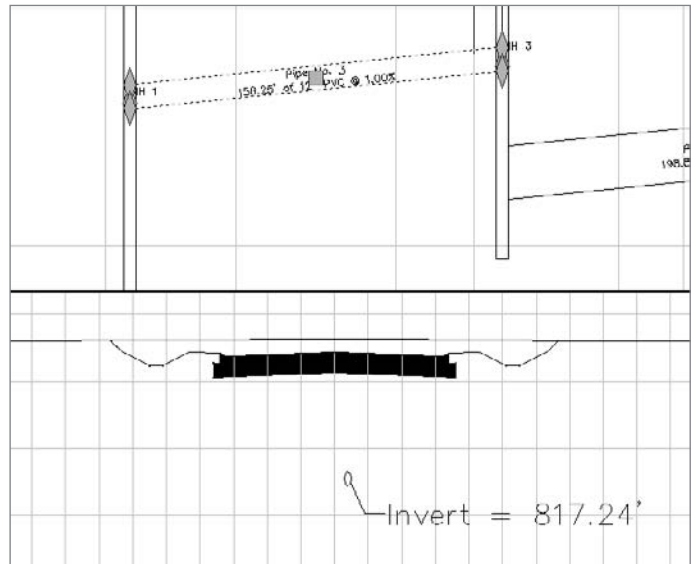

Figure 11.20
- Select the pipe so that grips appear. Use the square grip at the center of the pipe to move it up approximately 3', as shown in Figure 11.20. Note that the pipe shown in the section view moves to reflect the change in profile.